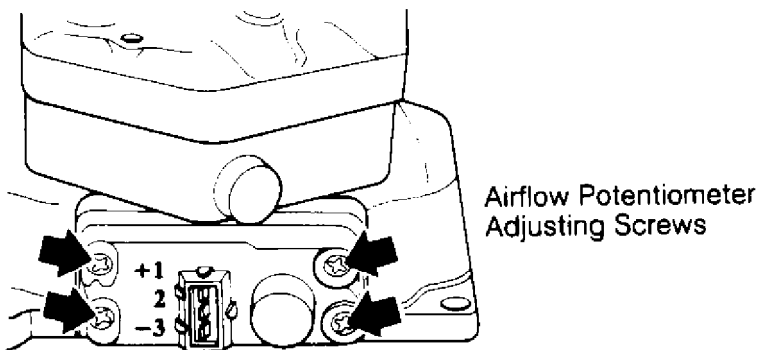

Fig. 7: Adjusting Airflow Sensor Potentiometer (CIS-E)
2) Carefully tighten mounting screws. Raise the sensor plate. Voltage should increase to approximately 7.0 volts. If increase is not as specified, readjust airflow sensor potentiometer. See Fig. 7.